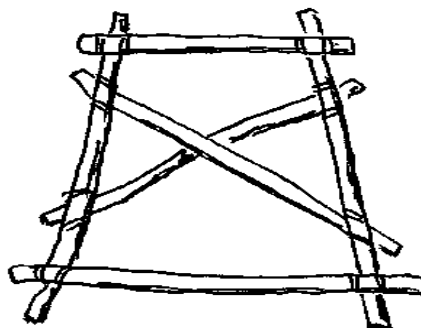

Figure 3.2: Braced Square or Trestle.
2. Square shapes or trestles must be strengthened with diagonal braces to keep them square (Figure 3.2). Lash all of the poles that make up the square first. When the square is completed, lash the two diagonal poles by attaching the lower lashings before the upper lashings. When the upper lashings is done, make sure that the structure is square. All of the lashings are Square Lashings. The top of the trestle is always smaller than the bottom.